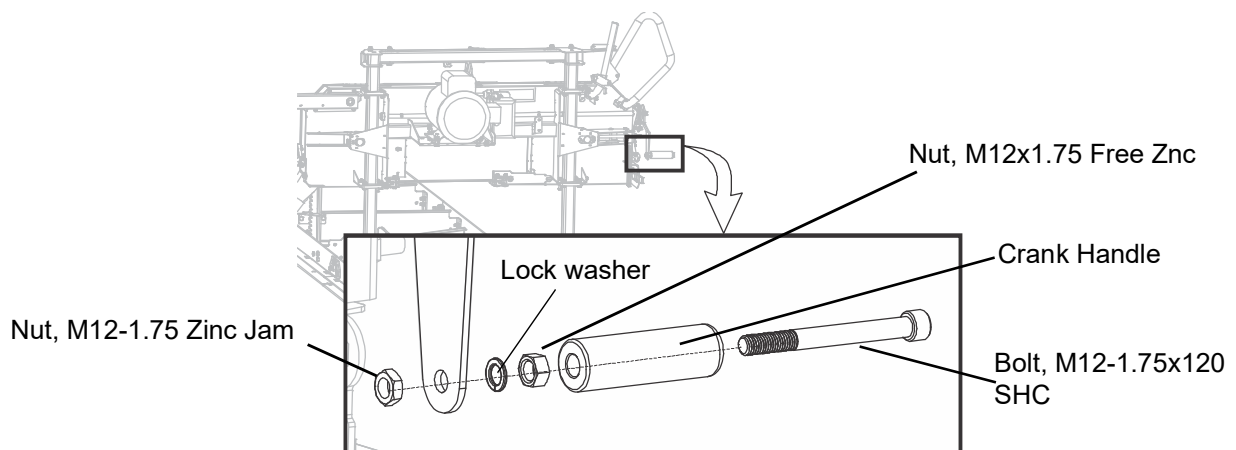

FIG. 1-29
**NOTE:** Make sure that the lock washer is in place between the flat washer and bolt head as shown. See FIG. 1-29.